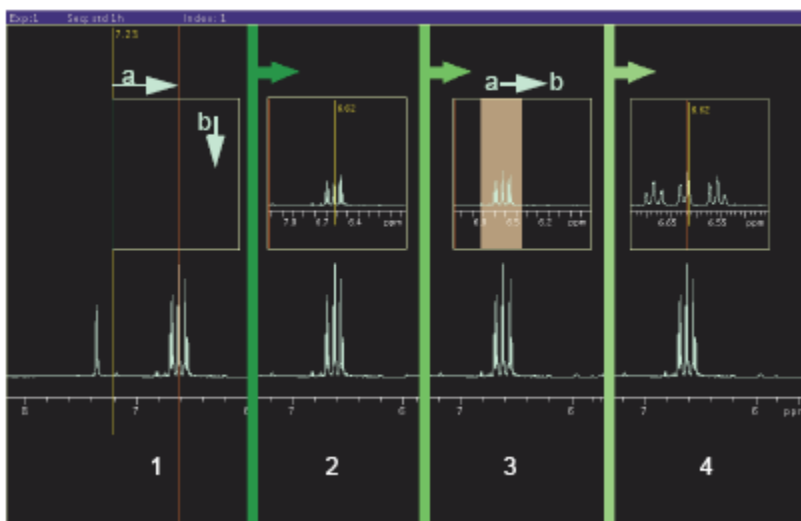

Figure 29 Creating an Inset Frame
2. Place the cursor at the low field (left) side of the region to be expanded as shown in Figure 29 frame 1a.
4. Drag the cursor down to set the height of the inset frame as shown in Figure 29 frame 1b.
5. Release the mouse button to create the inset frame, see Figure 29 frame 2.
4. Place the cursor at the low field (left) side of the region to be expanded as shown in Figure 29 frame 3a.
5. Hold the left mouse button down and drag the inset window to the high field (right) side of the region, Figure 29 frame 3b.
7. Release the mouse button and the selected region expands to fill the inset box, Figure 29, frame 4.